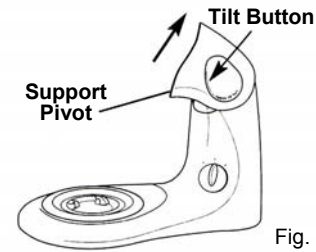

Fig. 4
- Press the tilt button, located on the top of the support pivot. While the button is depressed, ease the support pivot back. (Fig. 4)